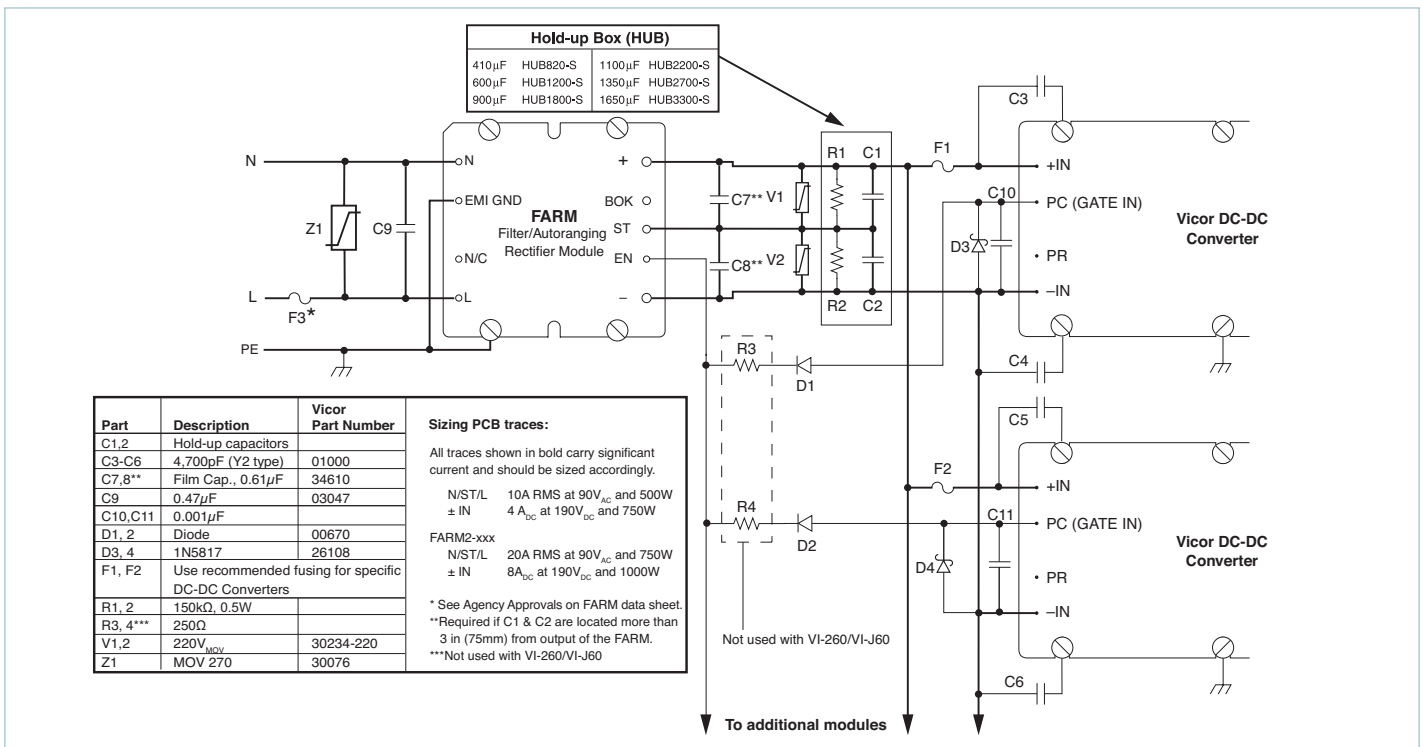

Figure 9 — Offline Power Supply Configuration
**Strap (ST) Pin:** In addition to input and output power pin connections, it is necessary to connect the Strap pin to the center junction of the series hold-up capacitors (C1, C2, see Figure 9) for proper (autoranging) operation. Metal oxide varistors, V1 and V2 provide capacitor protection. The bleeder resistors (R1, R2, see Figure 9) discharge the hold-up capacitors when power is switched off. Capacitors C7 and C8 are recommended if the hold-up capacitors are located more than 3 inches (75mm) from the FARM output pins.
It should be noted that the series combination (C1, C2, See Figure 9) requires each capacitor to be twice the calculated value, but the required voltage rating of each capacitor is reduced to 200V. Allowable ripple voltage on the bus (or ripple current in the capacitors) may define the capacitance requirement. Consideration should be given to converter ripple rejection and resulting output ripple voltage.